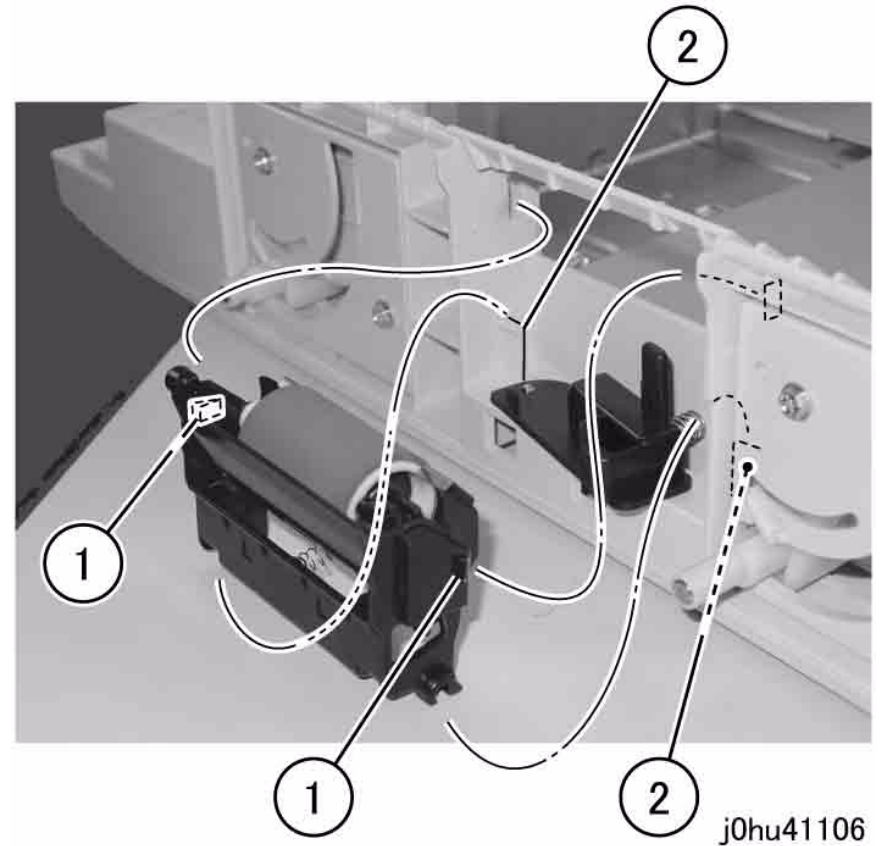

Figure 2 Remove Tray 2 Retard Roll Housing
3. Remove the Tray 2 Retard Roll Housing (Figure 2).